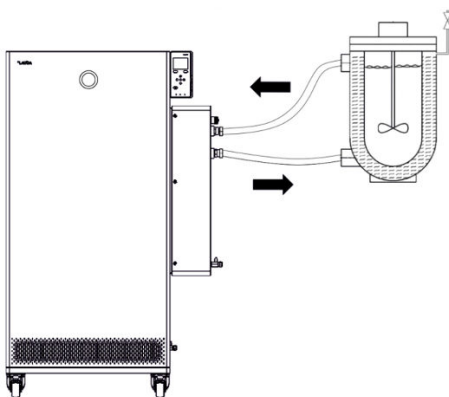

Fig. 42: Application with vent valve
- A vent valve Fig. 42 can significantly simplify the aeration process. For this purpose, periodically open the valve carefully and allow gas/air to escape until liquid escapes from the valve, and then close the vent valve again. Collect the liquid in a suitable container. Operate the valve again at regular intervals until no more air escapes.